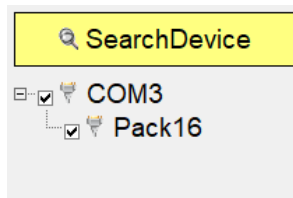

Figure 23: Detected Devices
- Click 'SearchDevice'. Once the program is done loading, you should see the detected battery as shown in Figure 23 below.